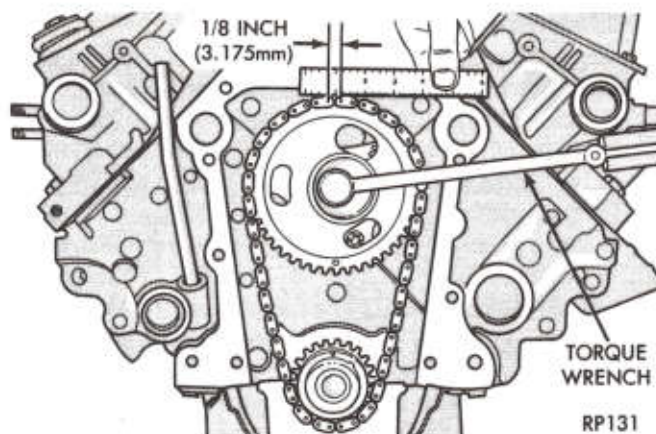

Fig. 26—Measuring Timing Chain Wear and Stretch
(1) Place a scale next to timing chain so that any movement of chain may be measured.
(2) Place a torque wrench and socket over camshaft sprocket attaching bolt and apply torque in direction of crankshaft rotation to take up slack; 30 ft. lb. (41 N·m) (with cylinder head installed) or 15 ft. lb. (20 N·m) (cylinder heads removed). **With a torque applied to the camshaft sprocket bolt, crankshaft should not be permitted to move. It may be necessary to block crankshaft to prevent rotation.**
(3) Holding a scale with dimensional reading even with edge of a chain link, apply torque in the reverse direction 30 ft. lb. (41 N·m) (with cylinder heads installed) or 15 ft. lb. (20 N·m) (cylinder heads removed) and note amount of chain movement (Fig. 26).
(4) Install a new timing chain, if its movement exceeds 1/8 (3.175mm) inch.
(5) If chain is not satisfactory, remove camshaft sprocket attaching cup washer, fuel pump eccentric and remove timing chain with crankshaft and camshaft sprockets.
(6) Place both camshaft sprocket and crankshaft sprocket on the bench with timing marks on exact imaginary center line through both camshaft and crankshaft bores.
(7) Place timing chain around both sprockets.